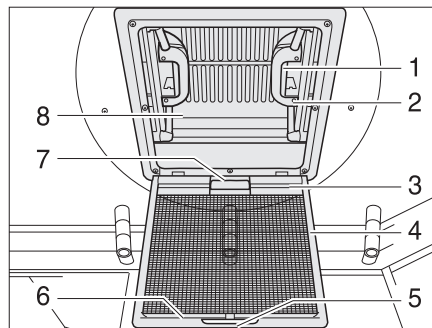

Fig. 43 Skylight with snap latch
- Pull on the handle (Bild 43,5).
- Fold the insect screen (Bild 43,4) downwards.
- Push the spring-loaded latch (Bild 43,1) towards the inside of the skylight (Bild 43,8). At the same time use the handle (Bild 43,2) to press the skylight upwards.
- Swing the insect screen upwards (Bild 43,4) until it latches in place.
- Using both handles (Bild 43,2), pull down the skylight (Bild 43,8) with force until the two snap latches (Bild 43,1) lock into place.
Closing: ■ Pull the handle (Bild 43,7) of the blind and hook the hook rail (Bild 43,3) into the retainer (Bild 43,6) on the insect screen.
Opening: ■ Release the hook rail (Bild 43,3) from the retainer (Bild 43,6) and feed the blind back slowly.